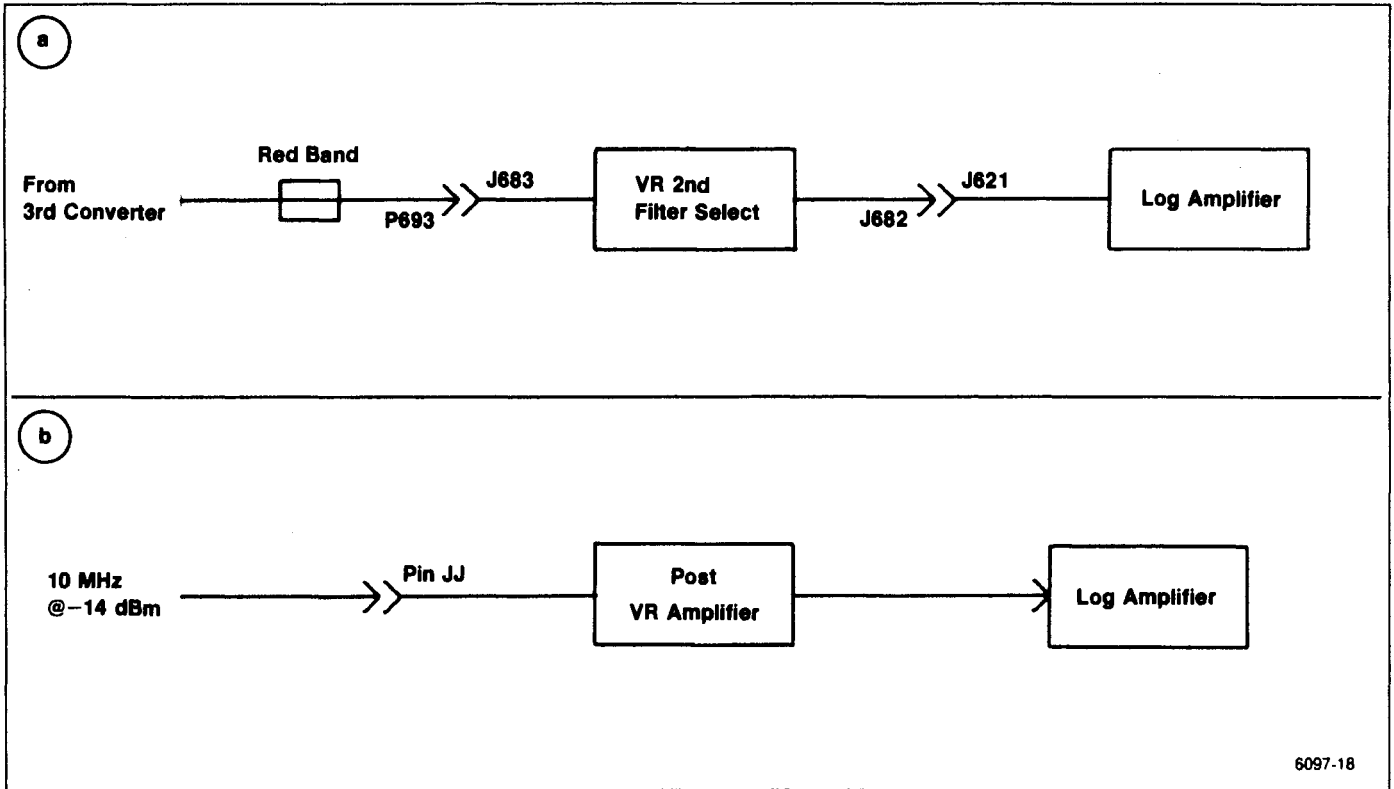
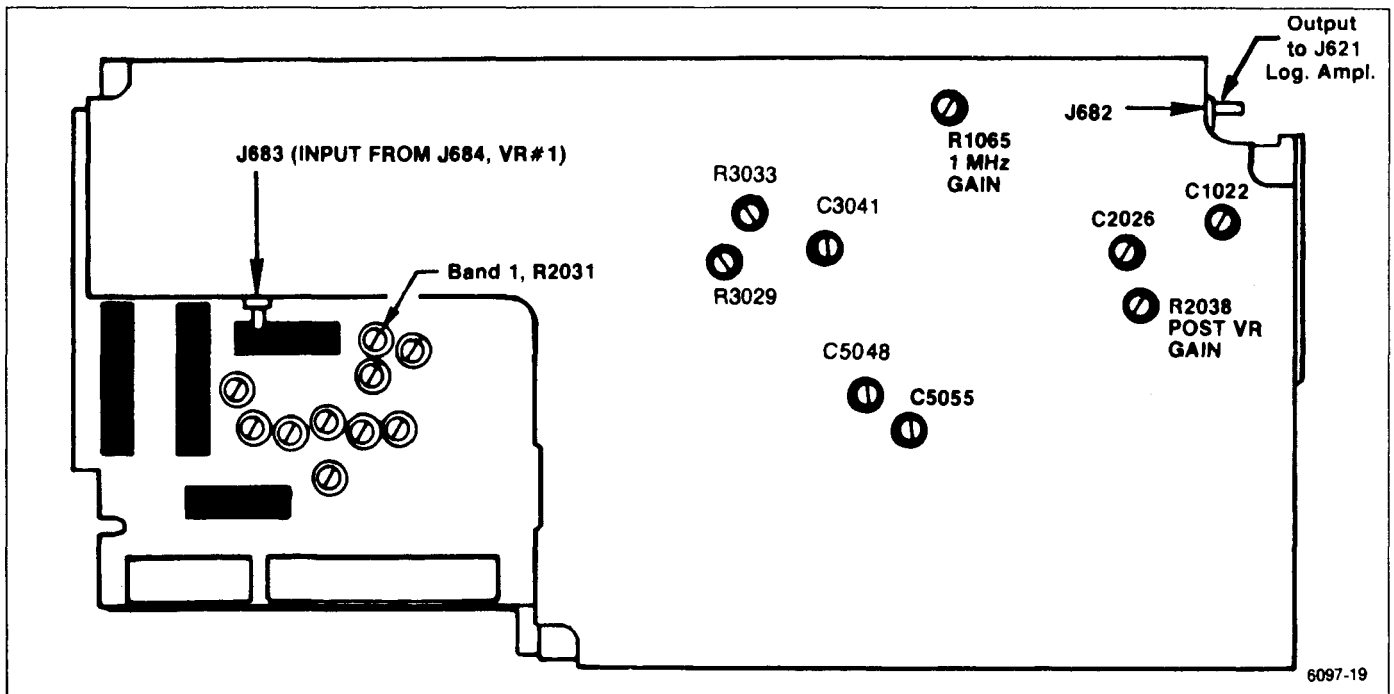
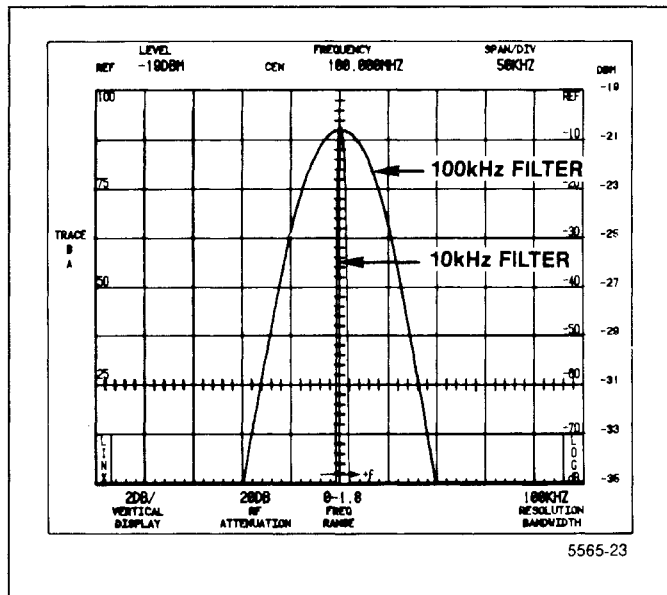
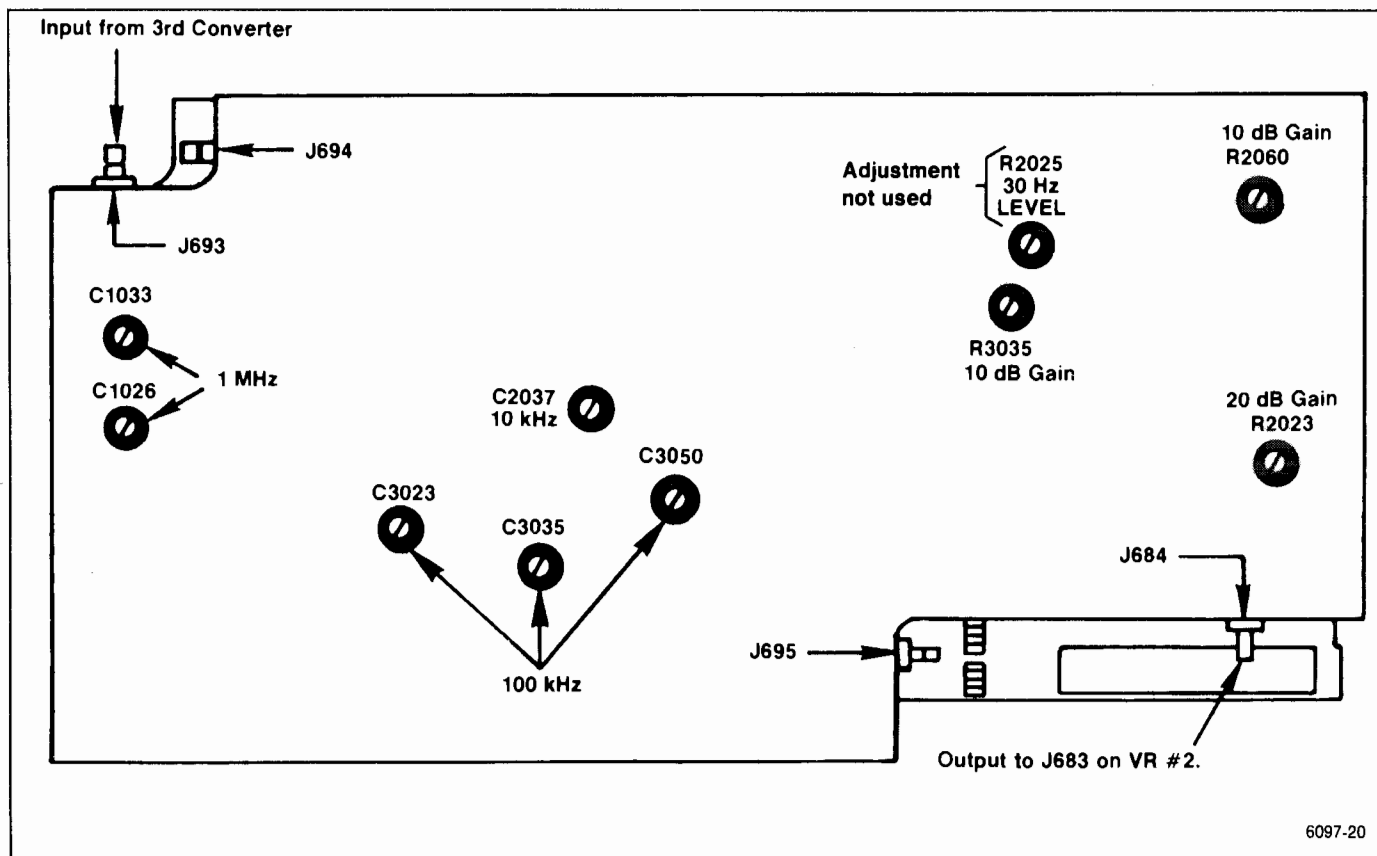

Figure 5-16. Test equipment setup for adjusting the Variable Resolution module.
Figure 5-17. Adjustments on the front of the Variable Resolution module.
Figure 5-18. 100 kHz filter response over 10 kHz filter response.
Figure 5-19. Adjustments on the rear of the Variable Resolution module.
a. Equipment setup is shown in Figure 5-16.
(1) Remove and install the Variable Resolution module on an extender.
(2) Use a Seaelectro male-to-male adapter and coaxial cable to connect the 10 MHz IF output signal, from the 3rd Converter, to the input of the second section (make connection from plug removed from J693 to J683).
(3) Connect the Variable Resolution output to the input of the Log Amplifier assembly by connecting a cable from J682 on the Variable Resolution Module to J621 on the Log & Video Amplifier assembly (see Figures 5-17 and 5-16).
(4) Apply the CAL OUT signal to the RF INPUT, and set the Spectrum Analyzer controls as follows:
d. Adjust C5055, C5048, and C3041 on the VR 2nd Filter Select board (Figure 5-17) for the best 100 kHz filter response (100 kHz bandwidth, 3 dB down, that is centered about the 10 kHz reference). Refer to Figure 5-18.
g. Adjust C2026 and C1022 (Figure 5-17) for the best 1 MHz response centered about the 10 kHz filter response.
h. Disconnect the 10 MHz third converter IF signal from J683 and reconnect it to J693 (see Figure 5-19). Reconnect P683 to J683 (Figures 5-16 and 5-17).
k. Adjust C2037 (Figure 5-19) for the best 10 kHz response centered about the 1 kHz reference.
- n. Adjust C3050, C3035, and C3023 (Figure 5-19) for the best 100 kHz response centered about the 10 kHz filter reference.
- p. Adjust the 1 MHz filter response and centering with C1033 and C1026 in the VR Input board (Figure 5-19). Deactivate SAVE A.
Locations of the adjustments are shown in Figure 5-17.
d. Set the front panel AMPL CAL fully ccw and set the Band 1 Gain R2031 on VR Mother board #2 (Figure 5-17) fully ccw.
e. Disconnect P693 (Figure 5-19) and activate MIN NOISE. Apply a 10 MHz, -25 dBm signal, from the signal generator, through a bnc-to-Seaelectro adapter to J693. Set the generator frequency to peak the signal amplitude. (Signal amplitude should be between 3.5 and 6.5 divisions. If signal amplitude is not within these limits it indicates a gain problem in the Variable Resolution module.)
f. If the signal amplitude is over 5 divisions, adjust the Post VR Gain R2038 (Figure 5-17) for a 5 division signal amplitude.
h. Switch MIN NOISE off, decrease the generator output to -35 dBm, leave the REF LEVEL at -20 dBm, and adjust the 10 dB Gain R3035, on the 10 dB Gain board (Figure 5-19) so the signal amplitude is 7 divisions.
i. Change the generator output to -45 dBm, the REF LEVEL to -40 dBm, and adjust the 20 dB Gain R2023 on the 20 dB Gain Step board (Figure 5-19) for a
j. Change the generator output to -65 dBm, the REF LEVEL to -60 dBm, and adjust the 10 dB Gain R2060 on the 20 dB Gain Step board (Figure 5-19) for a 7 division signal amplitude.